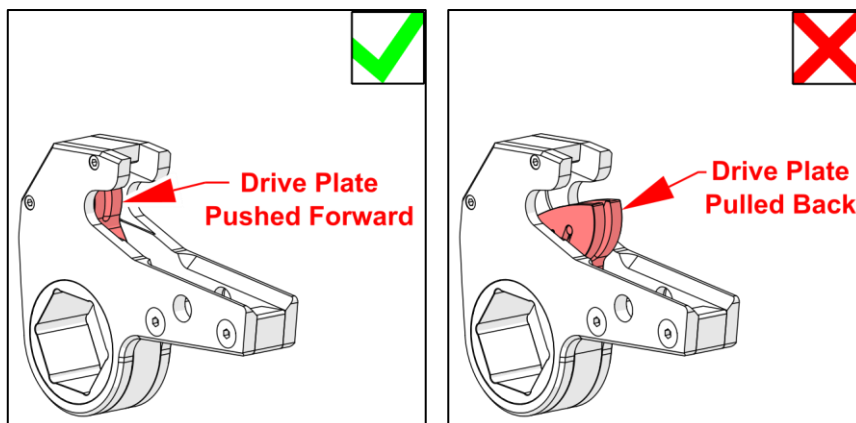

Figure 6.2: Correct Drive Plate Position
- The ratchet head drive plate is pushed forward (see figure 6.2).